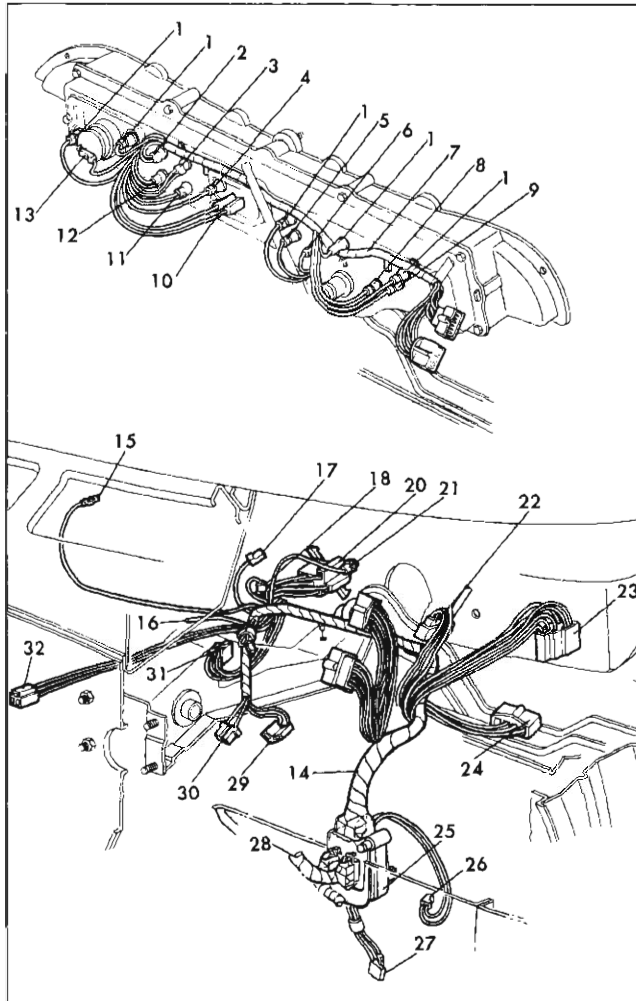

Fig. 51—Instrument Cluster Wiring
The underdash harness in the 1963 Chevrolet Passenger Car is all new and is in two separate assemblies. The instrument cluster has its own harness. Figure 51 shows all console wiring connections. Also, the main harness incorporates a resistance wire which eliminates the need for a light relay coil in the voltage regulator (see Charging Systems under Engine Electrical).
3. Reach behind console at driver side and disconnect the two multiple lead instrument cluster harness connectors (fig. 51).
1. After removing console, disconnect all indicator lights and electrical connectors from the cluster (fig. 51).